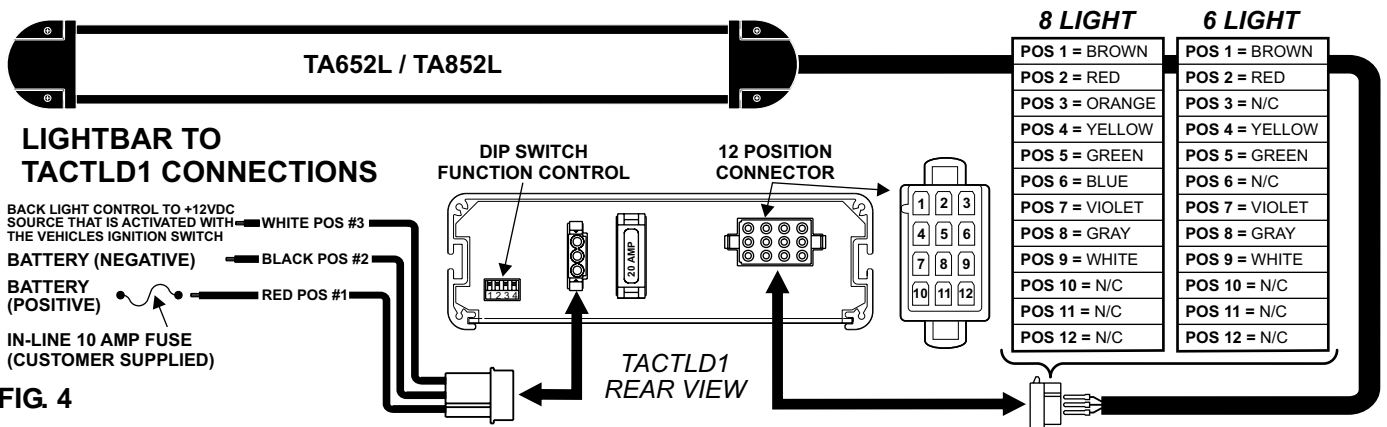

FIG. 4
1. Insert the 3-position connector into the back of the control head (see figure 4).
7. Following the pin chart (figure 4), insert the contact wires into their given positions. Check the wire's retention fingers by gently pulling back on them to make sure that they are seated properly